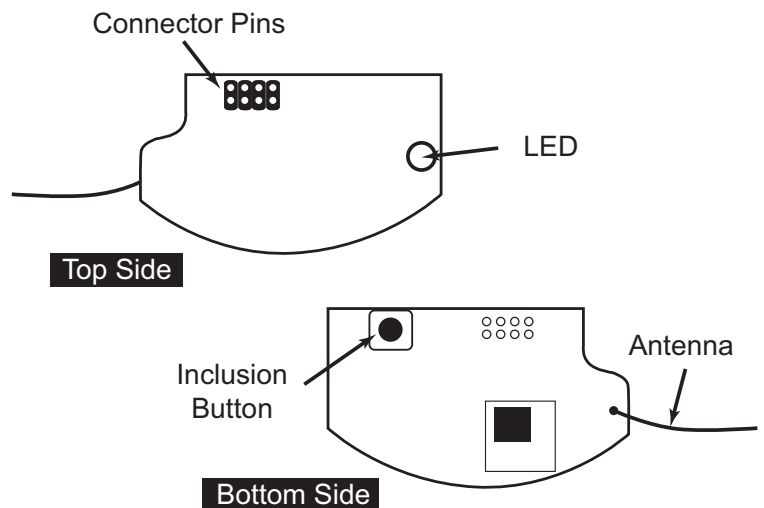

Figure 2
- Include the Sensor into your existing Z-Wave based Smart Home Network using the 'Inclusion button' (see Figure 2). The green LED will blink briefly.
Pressing the button 'Inclusion Button' for one second includes the device with Security. (See fig 2) The green LED will blink briefly.